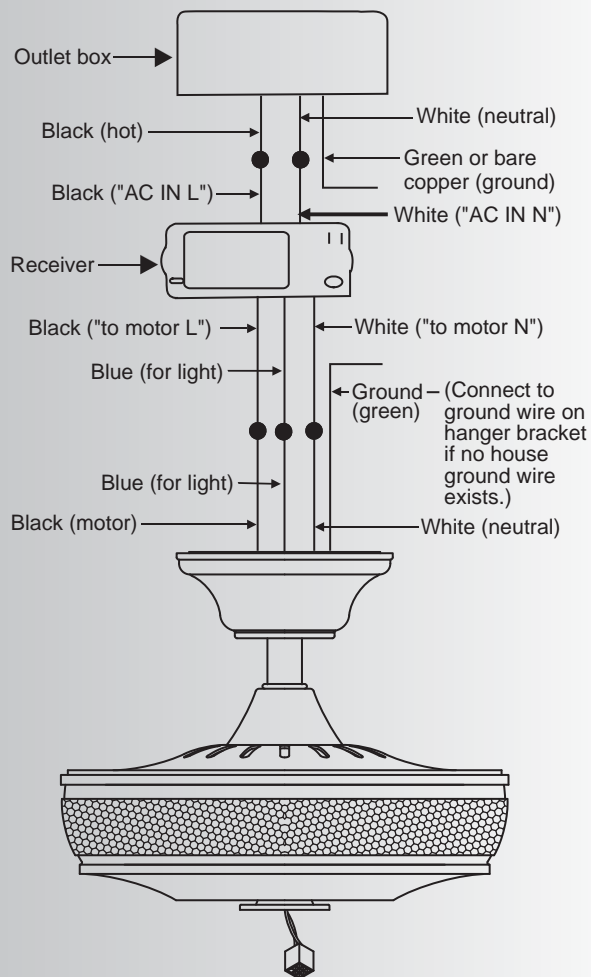

Fig. 14
Step 2. Motor to Receiver Electrical Connections: (Fig. 14) Connect the black wire from the fan to the black wire marked "TO MOTOR L" on the receiver.
Connections: (Fig. 14)
Step 3. (Fig. 14) Receiver to House Supply Wires Electrical Connections:
Step 4. (Fig. 14) If your outlet box has a ground wire (green or bare copper) connect it to the fan ground wires; otherwise connect the hanging bracket ground wire to the mounting bracket. Secure the wire connection with a plastic nut provided. After connecting the wires, spread them apart so that the green and white wires are on one side of the outlet box and black and blue wires are on the other side. Carefully tuck the wire connections up into the outlet box.